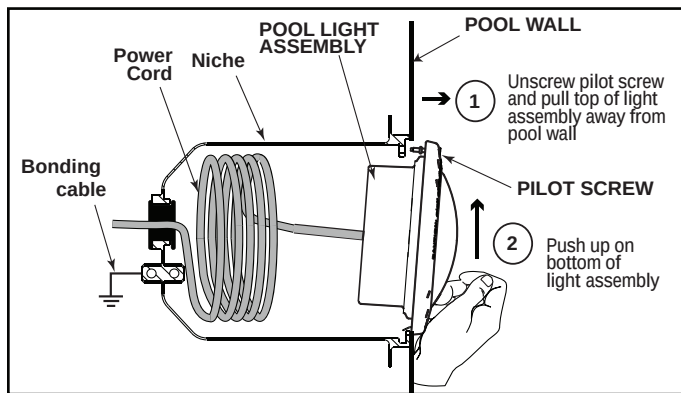

**Figure 6. Removing the Jandy Pro Series White LED Light Assembly for Light Driver Replacement**
3. To remove the light assembly, unscrew the special pilot screw at the top of the face ring, remove light assembly from niche and gently place assembly on the deck. It is not necessary to drain down the pool. See Figure 6.